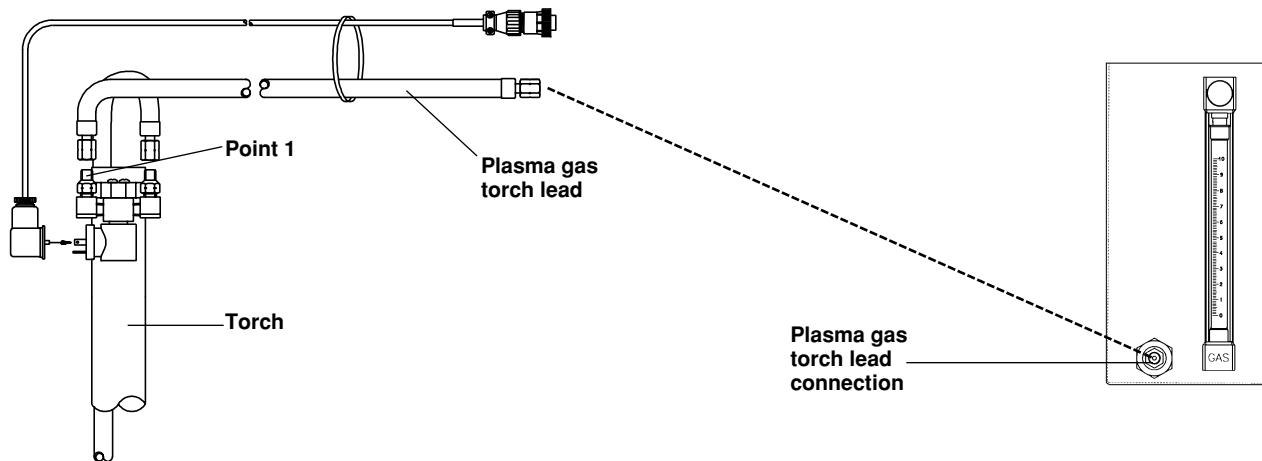

Figure 7-5 Argon-Hydrogen Manifold to Torch Connection Points
Plasma gas torch lead – Argon-Hydrogen Manifold to Torch (Fig. 7-5)
- C. Attach one end of the argon-hydrogen plasma gas torch lead (Fig. 7-4) to the **Plasma gas torch lead connection** located on the front of the manifold. (Fig. 7-5)
- D. Attach the other end of the plasma gas torch lead to **Point 1** on the torch. (Fig. 7-5)
Connect the nitrogen supply to the shield connection at the rear of the gas console. (Fig. 7-5)
3. Remove the argon-hydrogen plasma gas torch lead from point 1 of the torch. See Figure 7-5.